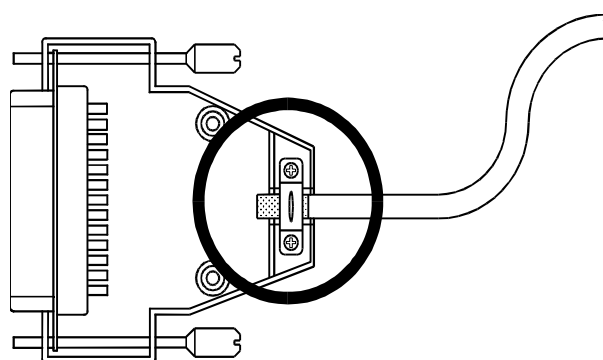

Fig. 1: Shielding in conformity with EMC standards
- When **using connectors**, metallised connectors are to be used only, e.g. SUB-D connectors with metallised housing according to Fig. 1. Make sure that the strain relief is directly connected to the housing here as well.